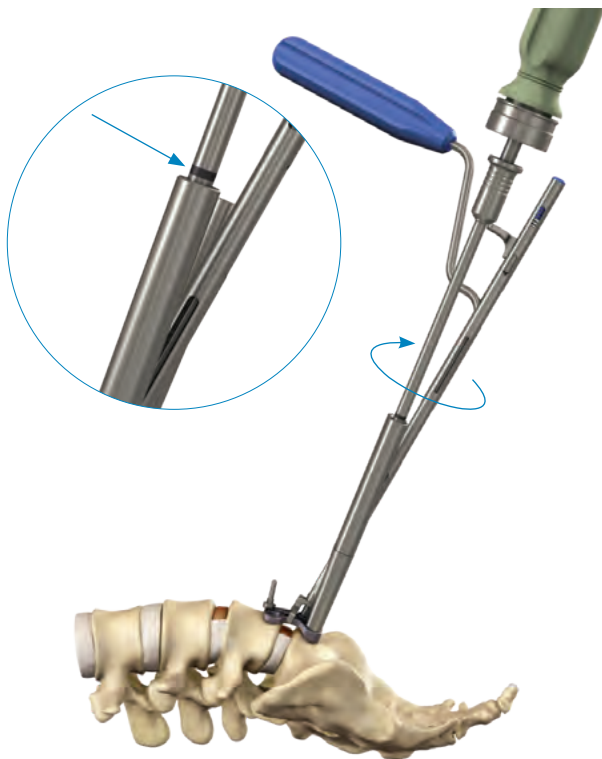

Figure 17:
- The angle of this tube places screws in a 6° trajectory away from the vertebral endplates (Figure 17).